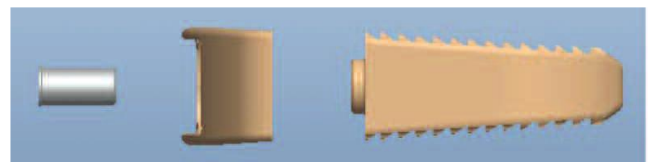

Figure 12b: Remove Set Screw and Plate
- D. The Vault Stabilizer Set Screw (10-1001) and Plate can be removed once all Bone Screws have been removed from the device. The Vault ALIF T8 Tapered Screwdriver is turned counter clockwise to remove the Set Screw (Figure 12b).